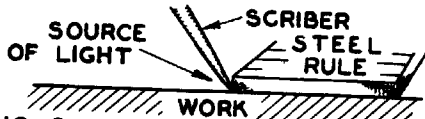

FIG. 3 SCRIBING CLOSE TO RULE
5. Set the point of the scribe as close to the edge of the rule as possible by tipping the top of the scribe outward (Fig.3).